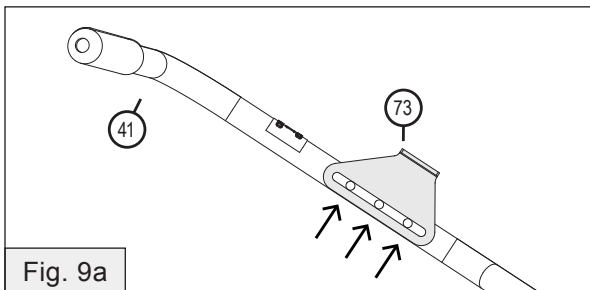

Fig. 9a
- Add two Nylon Lock Nuts (3) on the ends of the Bolt (44). Verify the Control Lever Stop (73) is centered (see Fig 9a) before tightening the Nuts (3) completely, securing everything in place.